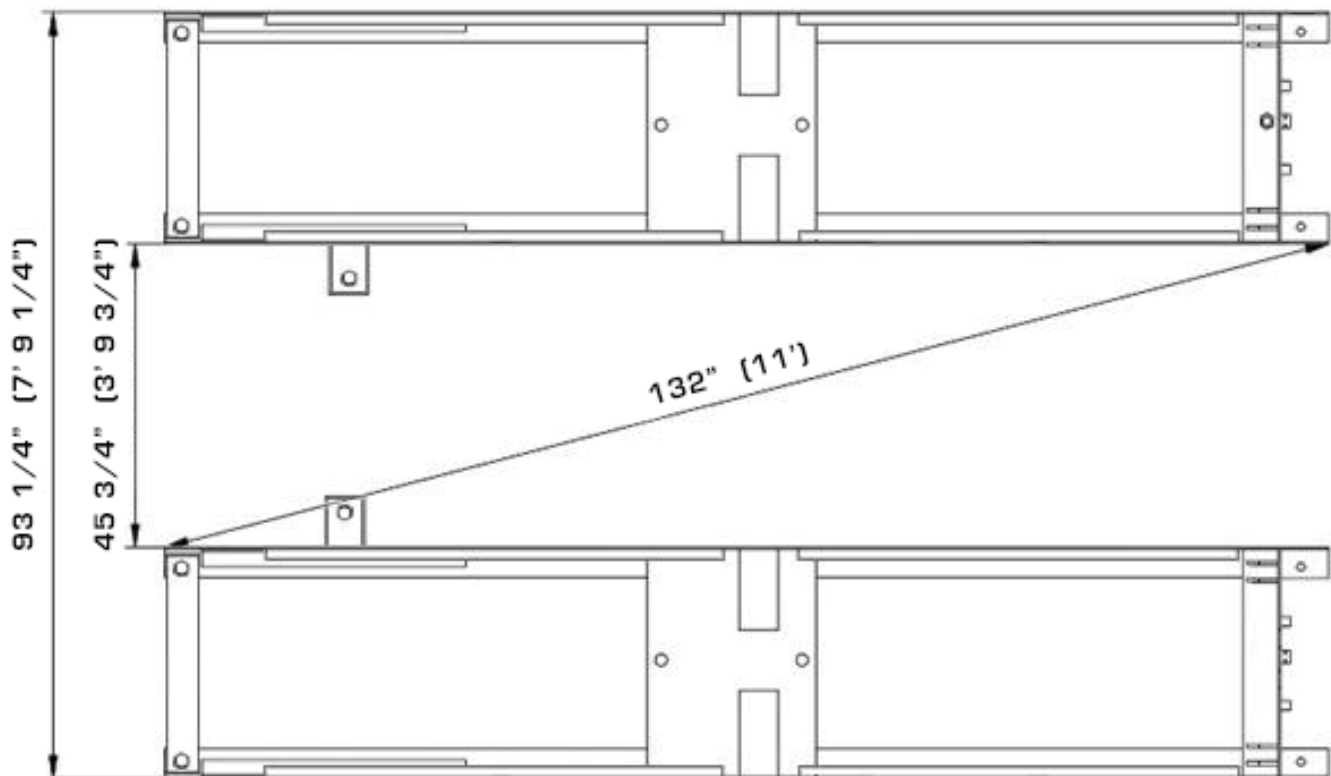

Fig. 3
1.1 On surface installation foundation (See Fig. 3).